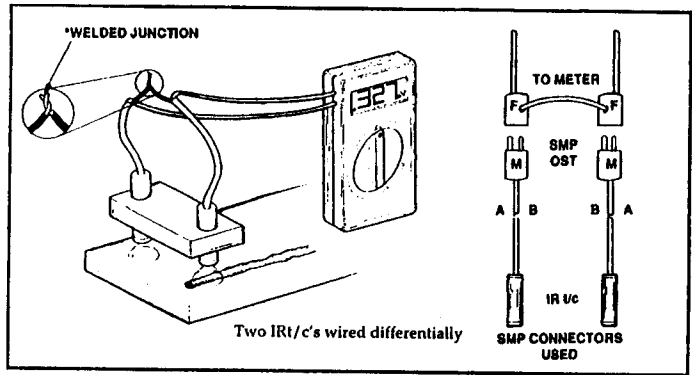

Figure 7-1. Wiring for Differential Measurement
*If it is not convenient to weld this junction, use SMP connectors as shown in Figure 7-1 to connect two common polarity wires.